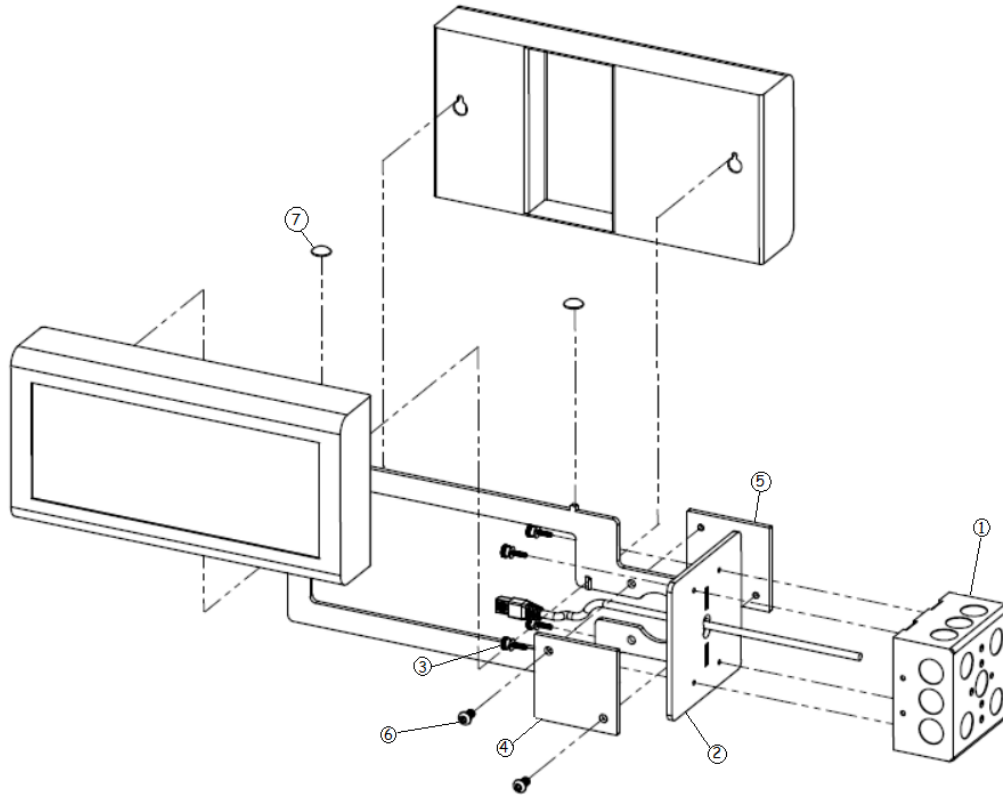

Figure 7: Digital Clock Cantilever Mounting
2. Mount a solid masonry junction box, two gang size (item 1, Figure 7), to the stud or post in accordance with local regulations.
3. Route the 2 data cables to the junction box in accordance with local regulations, then route the data cables through the hole in the back of the mount (item 2, Figure 7). The 4 digit clocks will require at least 12" (30.48cm) once through the hole and the 6 digit clocks will require at least 18" (45.72cm).
4. Attach mount (item 2, Figure 7) to the junction box using thumbscrews (item 3) provided.
5. Attach cover plates (items 4 and 5, Figure 7) with screws (item 6) using 5/32" allen wrench (provided).
9. Install the 2 retention fasteners (item 7, Figure 7) to secure the clocks to the mount.